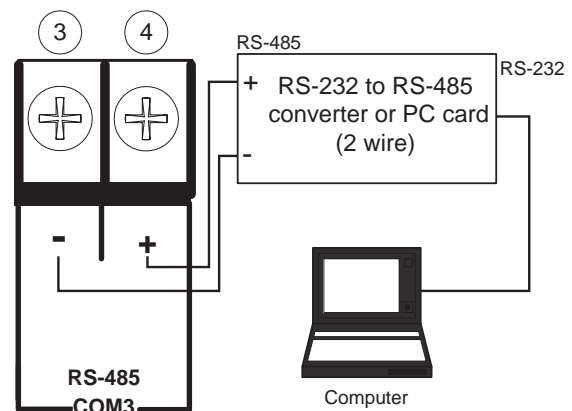

Figure 6-6 RS-485 2-Wire Testing
3. On the rear of the unit, connect a PC to the relay at terminals 3 (-) and 4 (+) using an RS-485 converter set for 2 wire operation. See Figure 6-6 for diagram.